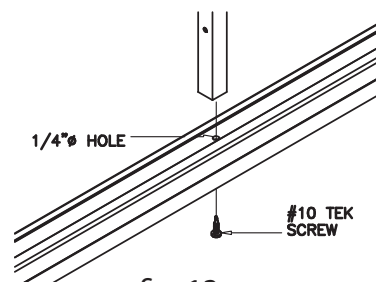

fig. 13
11) Attach Pickets To Bottom Rail (fig. 13): Utilizing the #10 x 3/4" SS pan head Tek screws provided, attach the sreader picket by screwing up through the underside of the bottom rail. Continue this process untill all sections have been assembled.